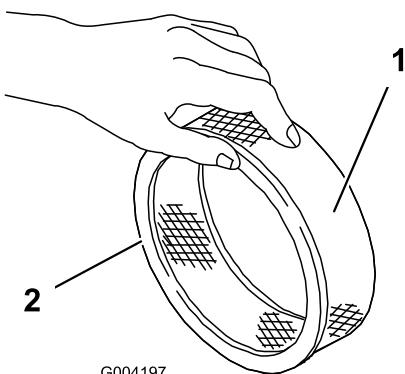

Figure 27
5. Lightly tap the paper filter on a flat surface to remove dust and dirt (Figure 27).
1. Carefully slide the foam pre-filter onto the paper filter (Figure 27).